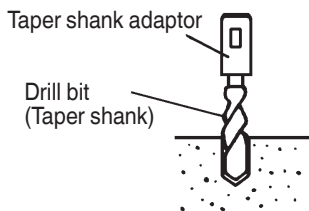

Fig. 13
(1) Install drill bit with taper shank in the taper shank adaptor. (Fig. 13)